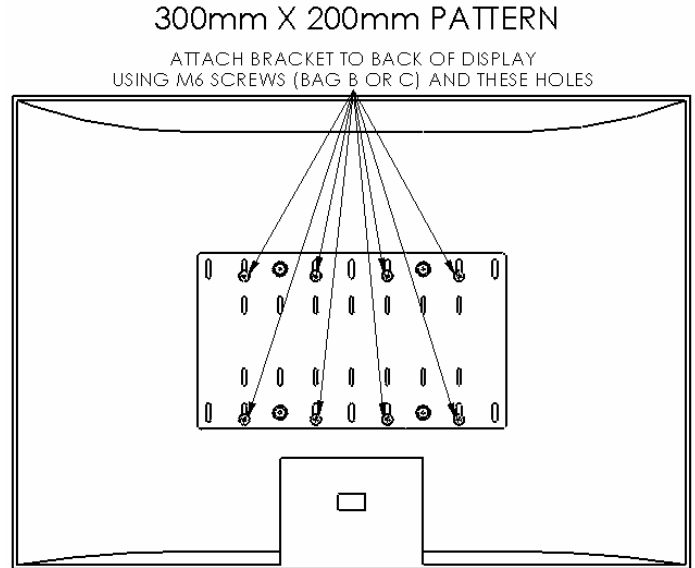

Figure 8. Display with 300mm x 200mm Hole Pattern
2. Attach the MSP-MSBTW1 (10) using the hole-pattern on the back of your display as shown in Figure 8.